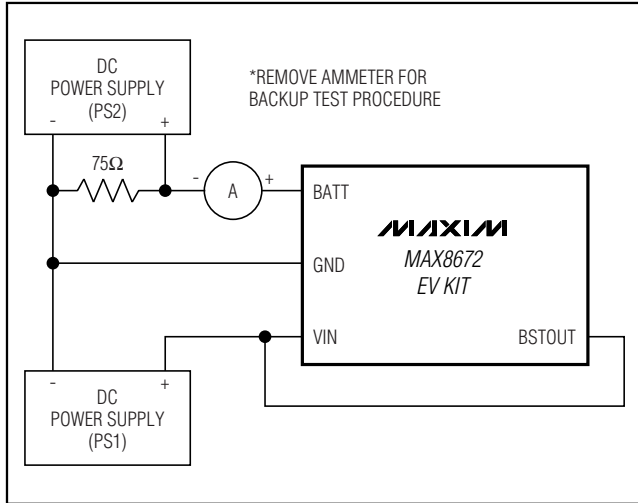

Figure 1. Test Procedure Setup
- 3) Make connections to the EV kit as shown in Figure 1 and described in the following steps:
- 1) Start with the charging configuration of Figure 1 and make connections as listed in the following steps: